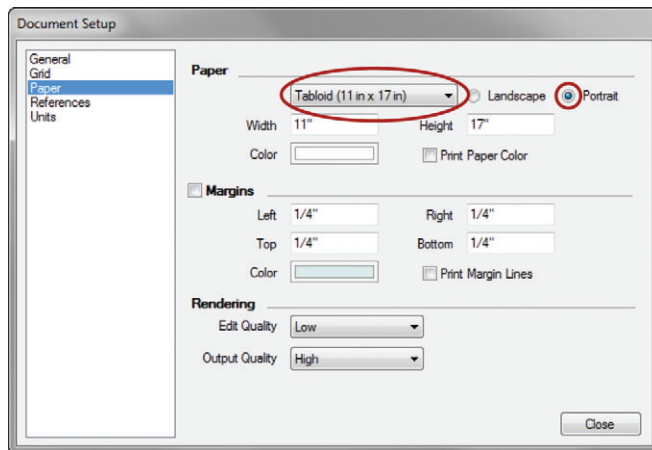

Figure 15.26 Adjust the paper size and orientation.
2. Click on the File drop-down menu and choose Document Setup > Paper. Adjust the paper settings to tabloid size with a portrait orientation (Figure 15.26).